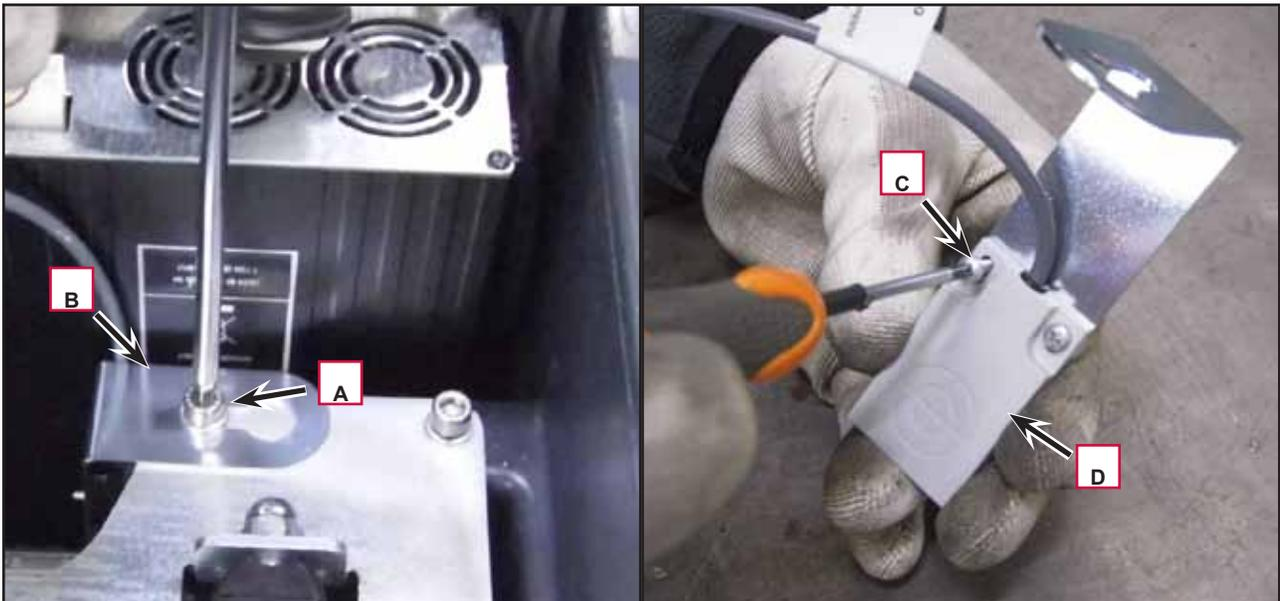

Figure 11
4. Unscrew the screw (A, Figure 11) and remove the sensor holder (B).
5. Unscrew the two screws (C) and remove the water level sensor (D).